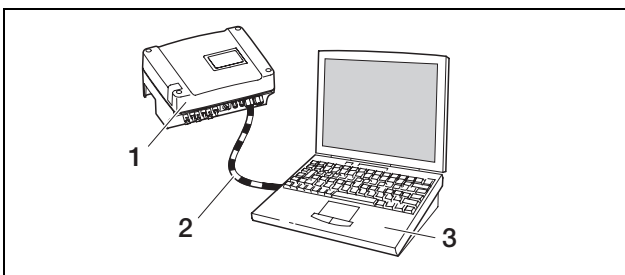

Fig. 23: Connecting inverter and computer with crossover cable
- b) directly via a so-called crossover cable (see figure 23).
You will only need a crossover cable if the inverter is connected directly to a computer, meaning without a switch/hub (figure 23).